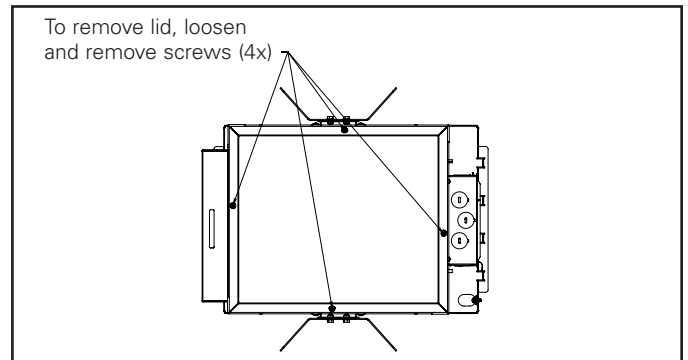

Figure 7.
6. For situations where the housing lid is accessible after housing installation, see figure 7 for removal.